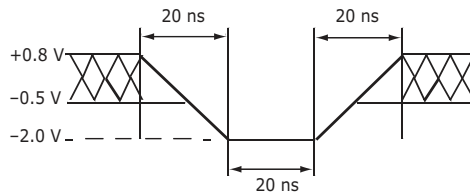

Figure 2. Maximum Negative Overshoot Waveform
1. Minimum DC voltage on input or I/O pins is -0.5 V. During voltage transitions, input at I/O pins may overshoot V_{SS} to -2.0 V for periods of up to 20 ns. See Figure 2. Maximum DC voltage on output and I/O pins is 3.0 V. During voltage transitions output pins may overshoot to $V_{CC} + 2.0$ V for periods up to 20 ns. See Figure 9.